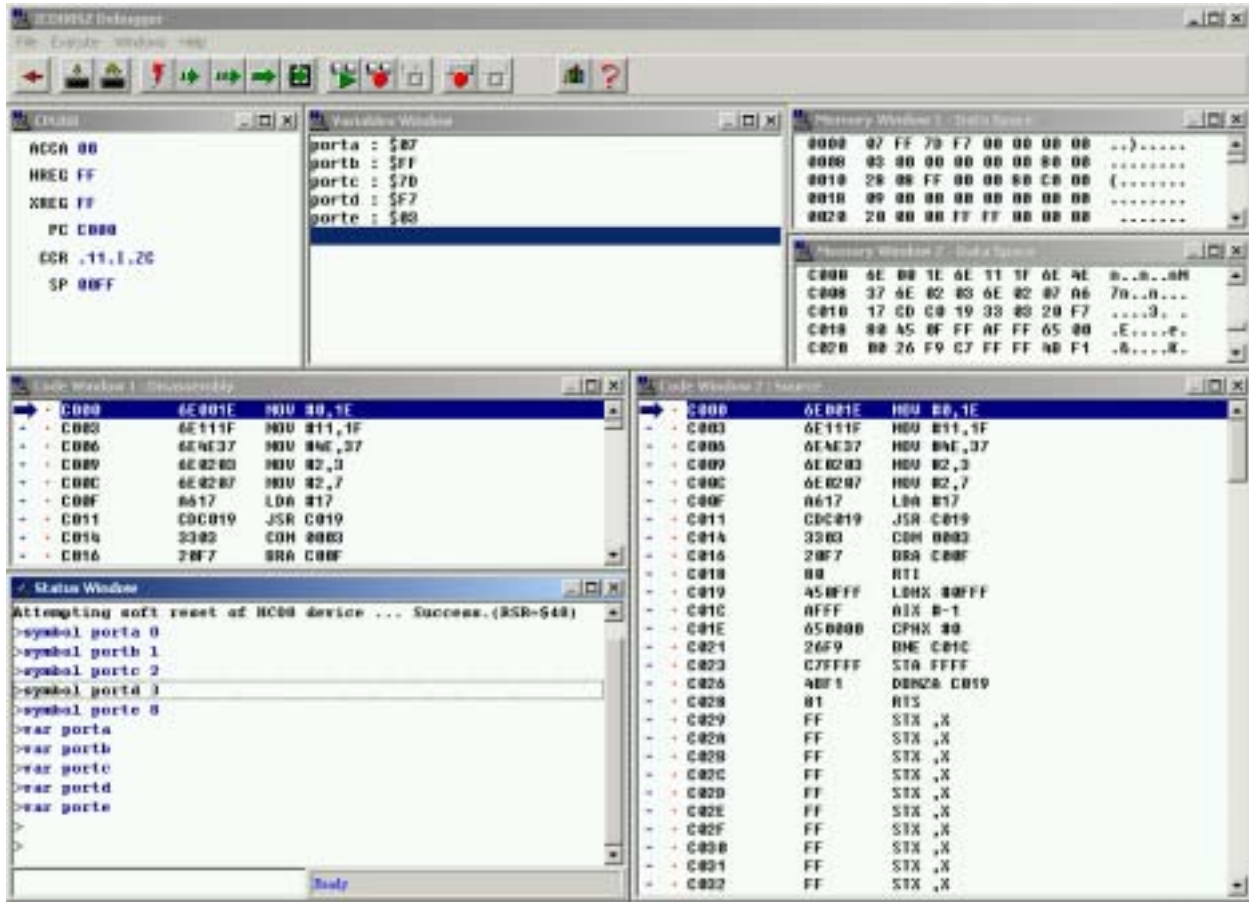
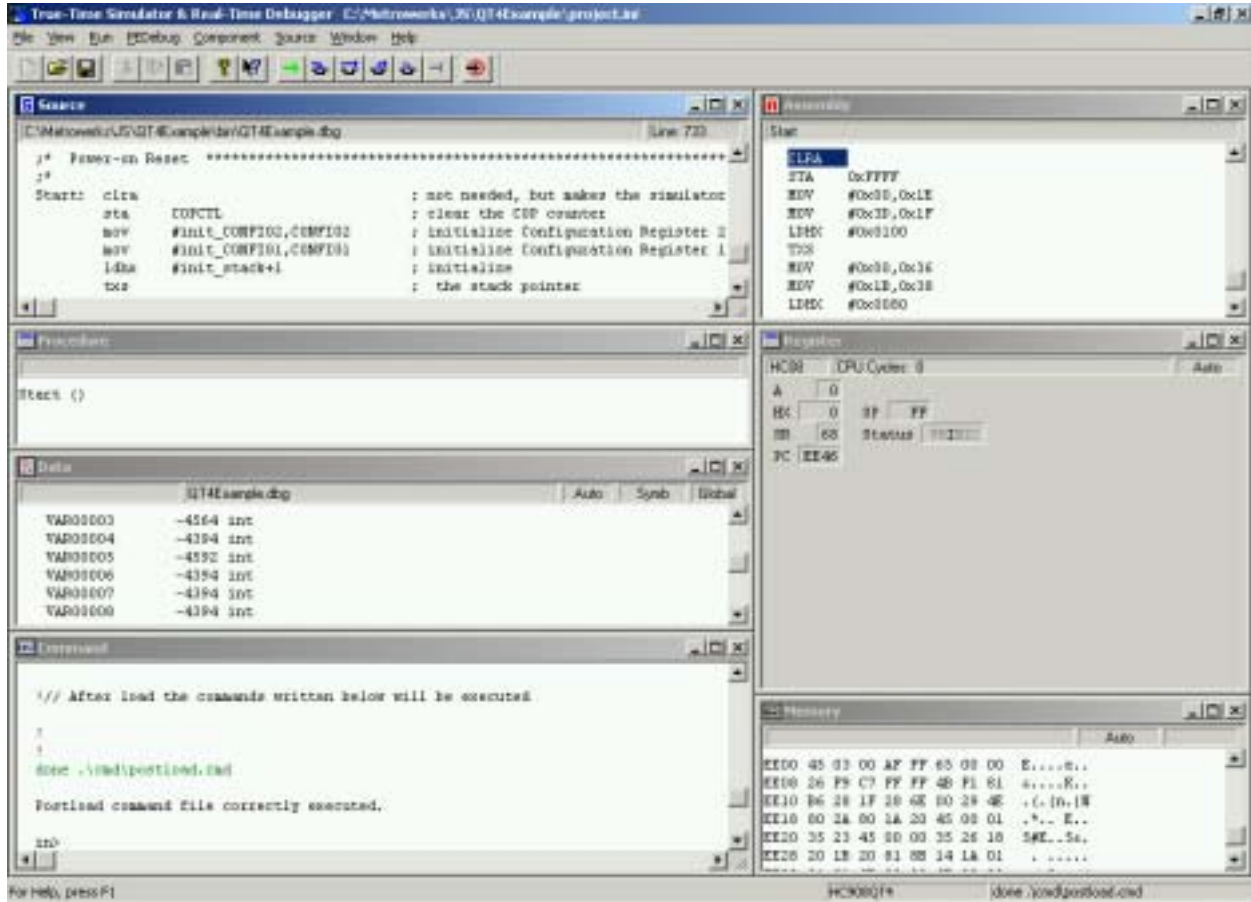

Figure 13. P&E’s ICD08SZ Debugger Window
Figure 15. True-Time Simulator & Real-Time Debugger Window
Getting into the ICD08SZ debugger is even simpler. With a MON08 interface between PC and target, select the In-Circuit Debugger icon from the WinIDE menu bar. Follow the instructions in the Power Cycle dialog box if using the Class III hardware type. The debugger establishes communications with the target and interrogates the memory spaces on the MCU. Various windows display register, variables, code, memory, and status information. See Figure 13. Icons in the menu bar offer quick access to debugger functions.
4. Click the Debug icon (green arrow). The True-Time Simulator and Real-Time Debugger launches. **Figure 15.**
At this point, the FLASH memory is programmed and ready for debug. The True-Time Simulator & Real-Time Debugger integrates the debugger tools from P&E Microcomputer Systems in this example. The windows look slightly different between the ICD08SZ and True-Time tools (compare Figure 13 with Figure 15), but the same basic debugger (ICD08SZ) drives both.